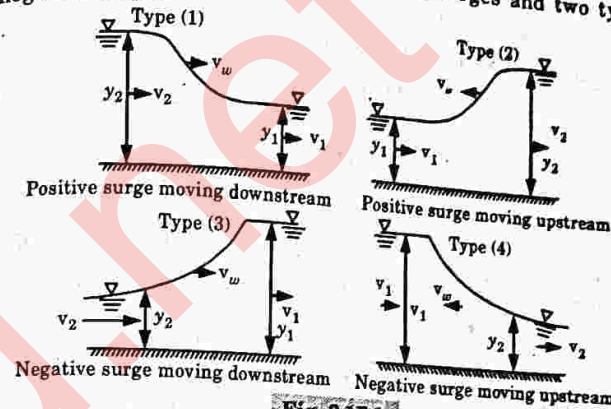

Fig. 3.17.1
5. Fig. 3.17.1 shows two types of positive surges and two types of negative surges.